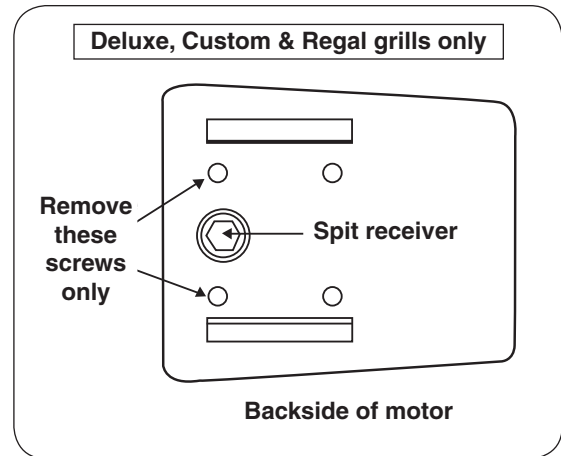

Fig. 2-1 Install bracket to motor (3601G, 3603G, 3606G)
1. Remove the two small screws from the motor casing (Fig. 2-1). Holding the motor bracket offset tab away from the motor, place the bracket against the motor casing, aligning the spit receiver with the  $\frac{3}{4}$ " bracket hole. If the spit receiver is not centered in the  $\frac{3}{4}$ " hole when the screw holes are lined up, rotate the bracket ( $180^\circ$ ) in the opposite direction. Replace and tighten the screws.
1. Remove the two small screws from the motor casing (Fig. 2-1). Holding the **(A)** motor bracket offset tab away from the motor, place the bracket against the motor casing, aligning the spit receiver with the  $\frac{3}{4}$ " bracket hole. If the spit receiver is not centered in the  $\frac{3}{4}$ " hole when the screw holes are lined up, rotate the bracket ( $180^\circ$ ) in the opposite direction. Replace and tighten the screws.